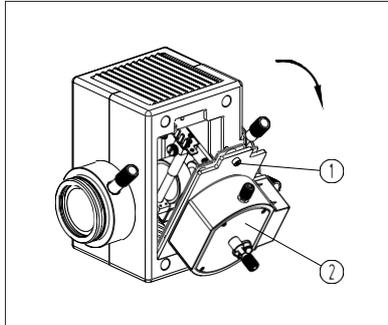

Fig. 7
(1) Loose lock-screw ① completely by the M4 inner hexagon spanner and rotate with 45 degrees as the direction shown, then take off the bulb holder ②. (See Fig. 7